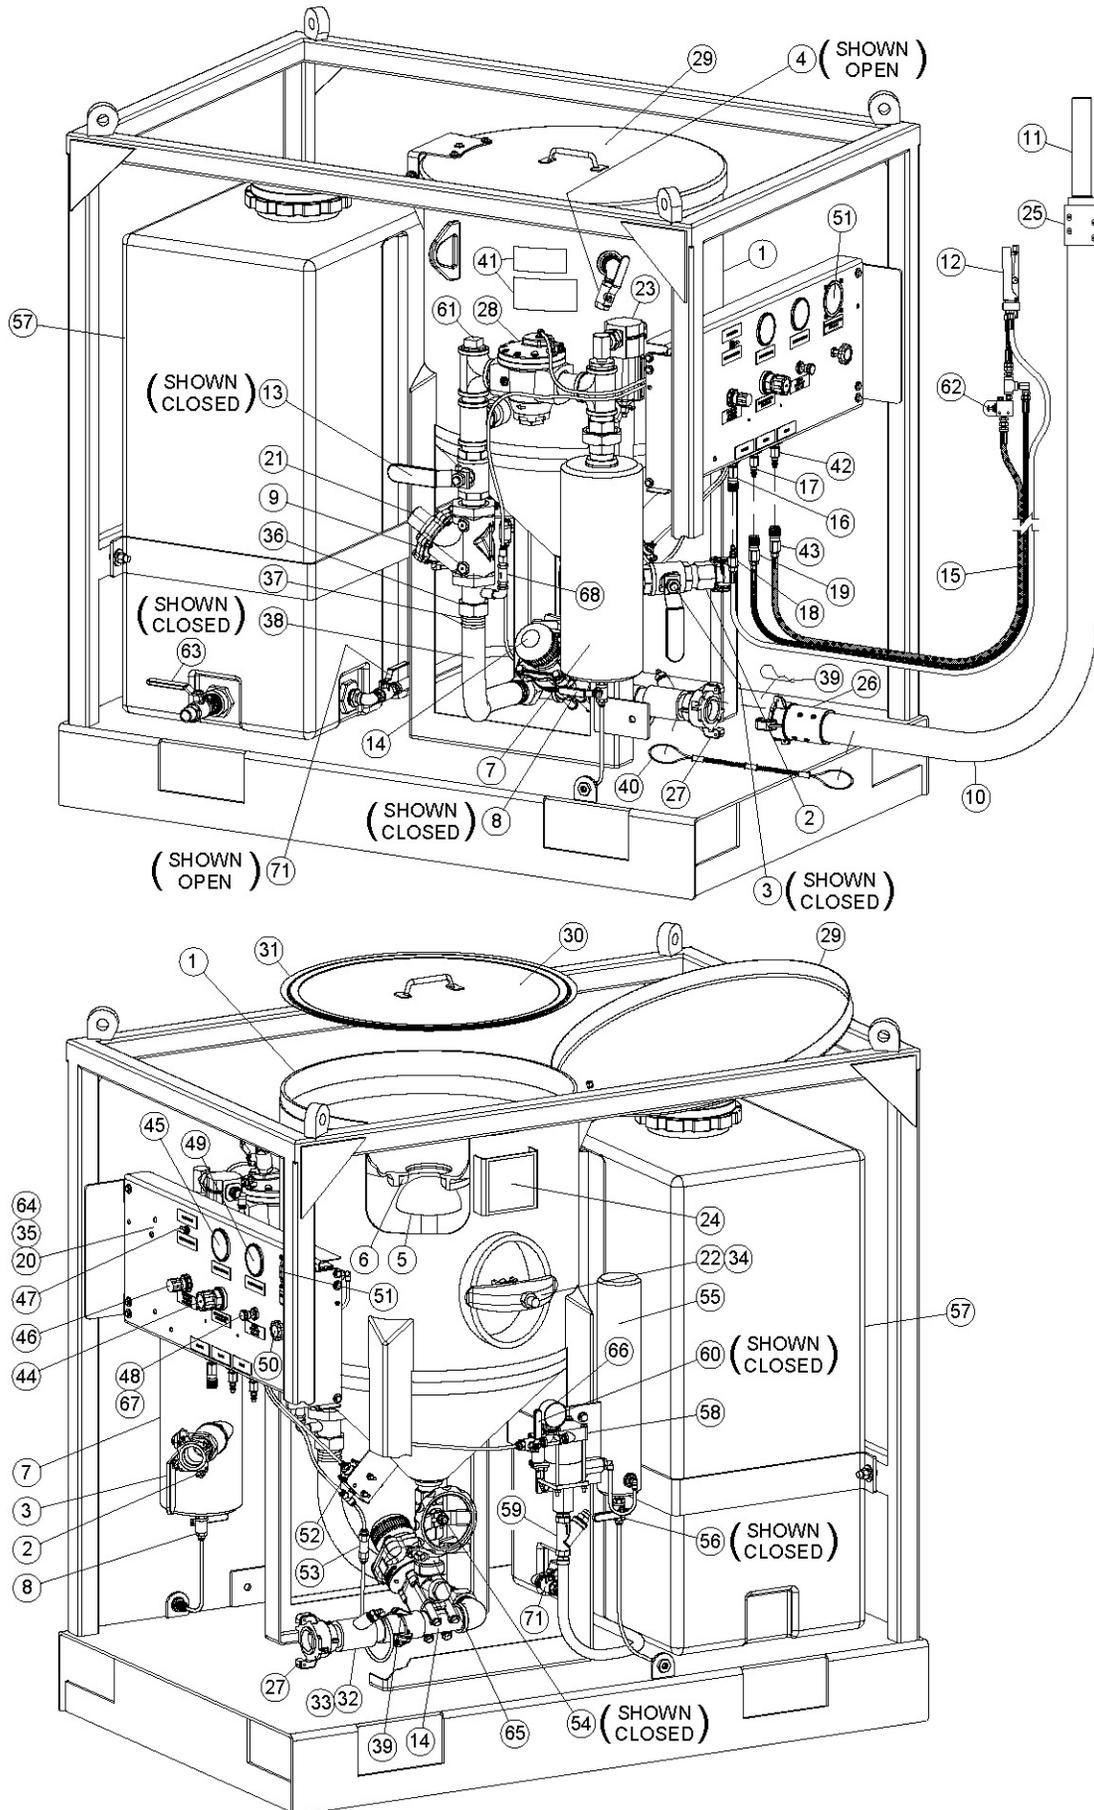

Figure 8.4 – AmphiBlast™ With Pneumatic Blast Controls
- 8.11. **Blowdown Ball Valve:** The blowdown ball valve (#4) is used to depressurize the abrasive blaster pressure vessel (#1). See Figure 8.4. The blowdown air flow can carry abrasive from inside the pressure vessel which can wear the blowdown ball valve (#4) and piping. This wear will cause the blowdown ball valve (#4) to be difficult to open and/or close, and/or result in the inability to close properly (air leaks), and/or wear of the attaching pipe fittings. If and when any of these conditions develop they will be noticeable during daily blowdown operation. When any malfunction is detected the blowdown ball valve (#4) and attaching fittings should be replaced.
Note: Once maintenance is completed as detailed below and the abrasive blaster is re-pressurized confirm there is no air leakage when the blowdown ball valve (#4) is closed. The ball valve is closed when the handle is fully turned to the position shown in Figure 8.4 (handle perpendicular to body). When any malfunction is detected the blowdown ball valve (#4) and attaching fittings should be replaced.
When replacing the blowdown ball valve (#4), also replace the pipe fittings upstream of the valve. These fittings are the 3/4" x close nipple, 3/4" x 1/2" 90° reducing elbow and the 1/2" x close nipple (see Figure 8.4).